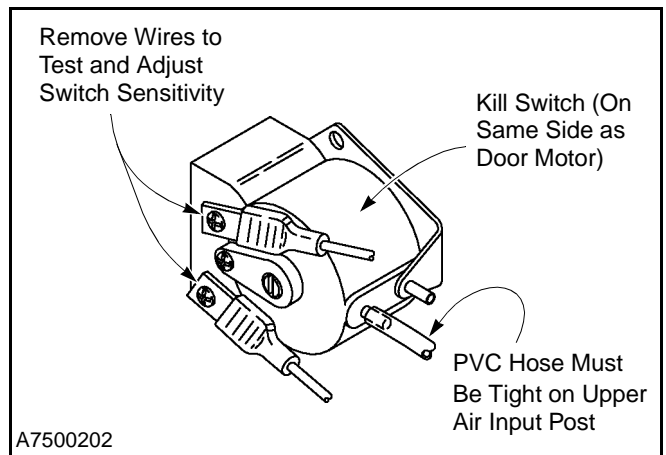

Figure 40
3. Make sure the PVC hose is tight on the upper air input post to prevent air leakage and to ensure the hose will not vibrate off the post. Also make sure the hose is not kinked. (See Figure 40.)